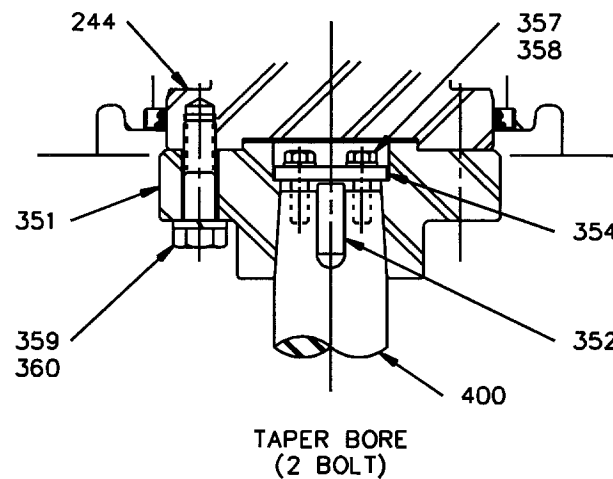

Figure 5: Shaft Coupling Installation
- 7e. Clean the extension shaft [400] and coupling half [351] bore and make sure that both surfaces are free from burrs or nicks. Place key [352] (*Figure 5*) in the coupling keyway to make sure it slides freely. Install the key in the shaft keyway making sure it is properly oriented and fully bottomed in the keyway.